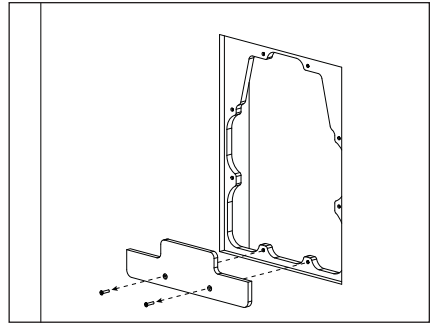

Fig. 5e
- e) Remove positioning block by removing screws that hold it in place; discard (Fig. 5e).